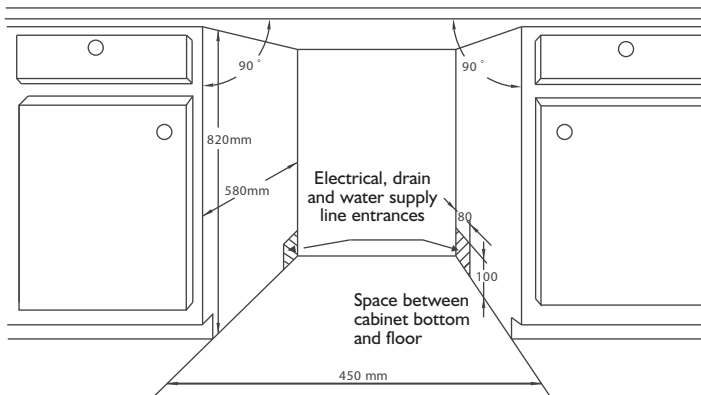

Fig. 1
1. Choose a place near the sink to facilitate the installation of inlet and drain hoses (see figure 1).